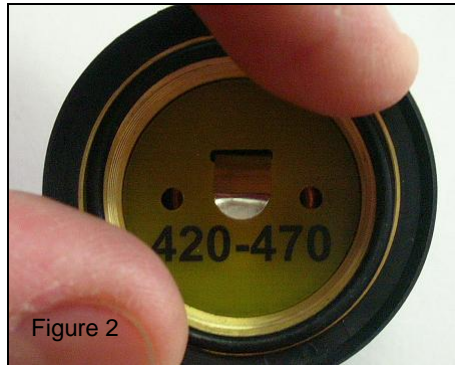

Figure 2
**3. Pre-Installation (Figure 2):**
- b. Ensure O-ring is properly seated within O-ring groove as shown in Figure 2.
- c. **Important:** Verify proper operational frequency is stamped on the base of the coil as shown in Figure 2.